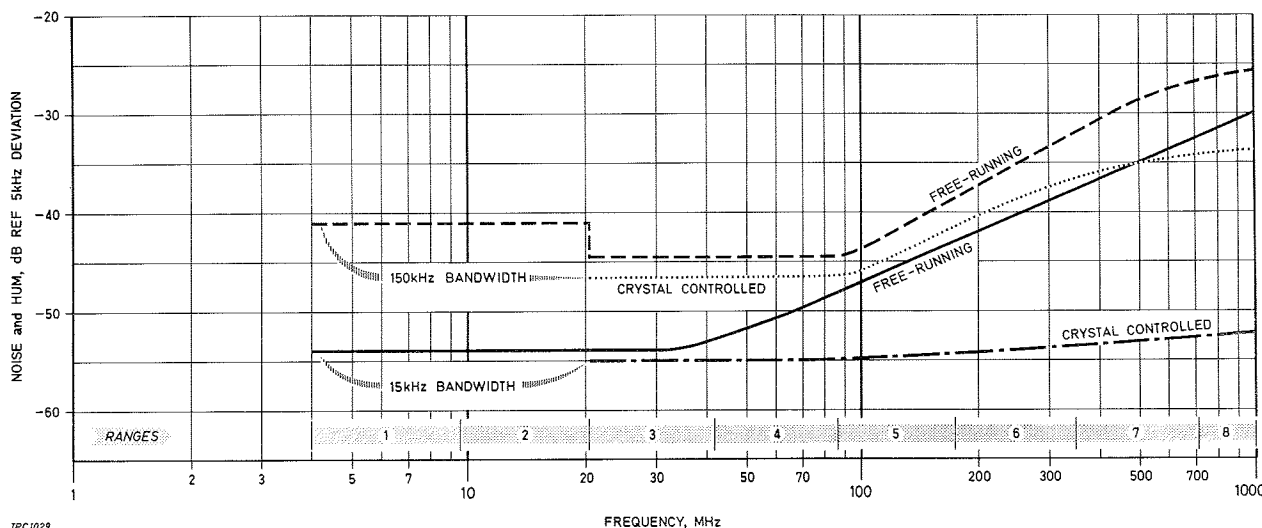

Fig. 2.4 Typical modulation meter noise levels
- (4) The curves given in Fig. 2.4 show typical noise levels produced by free-running and crystal controlled oscillators over the r. f. range of the instrument. In the 15 kc/s bandwidth, below 70 to 100 Mc/s, there is insignificant difference in respective noise levels. Above 100 Mc/s, however, the noise level free-running increases progressively with frequency, whereas under crystal control the level remains nearly constant. The necessity to use crystal control depends on the noise level of the equipment under test and, as shown by the curves, the band-